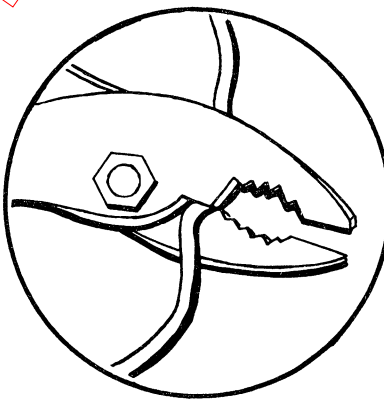

Fig. 12
- Use it to bend or cut wire or to straighten a bent nail. (Fig. 12)